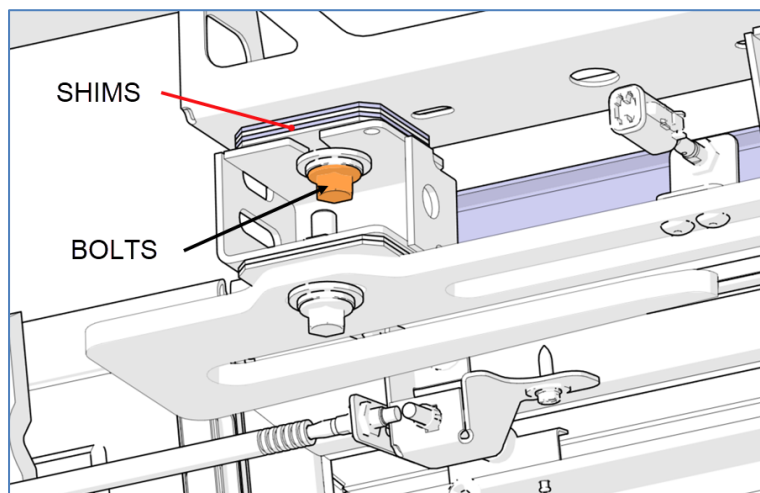

Figure 47
8. With opened door, loosen the bolt on the rail support and remove all upper shims (Figure 47). Use of the torque adaptor is required.